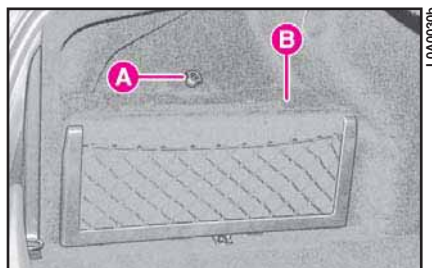

fig. 68
- 2) Loosen knob **A** (**fig. 68**) and remove the battery cover **B**.